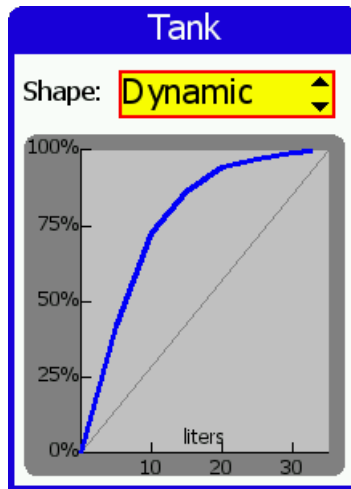

Figure 44: Tank shape selection window. The figure shows that the curve for the Dynamic WT9 tank is very non-linear
2. Select *T1 Shape*. This opens a tank shape window, Figure 44. Use **up** or **down** button to select the correct shape for your aircraft tank. The graphics below shows the non-linearity of the tank. Straight diagonal line indicates that the tank is linear. Please note that changing the shape deletes any existing tank calibration. See the *IMPORTANT* box on the page 63.